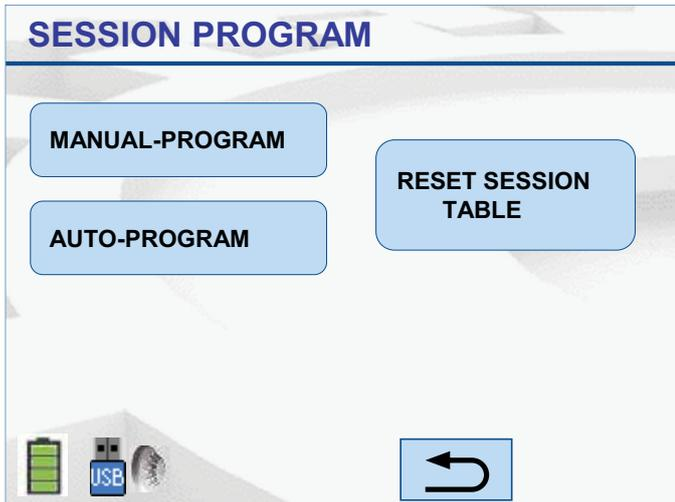

Fig. 14: Session Program
Use this option to program multiple devices with consecutive addresses. The 850EMT checks a table of addresses used, so the next unused address can be assigned to each device. This session table can be cleared. From the Main menu, press the **Session Program** button to display the session program screen as shown in Figure 14.
- Press **N** to continue with the currently displayed values. It leads you to the **Session Program** screen as shown in Figure 14.